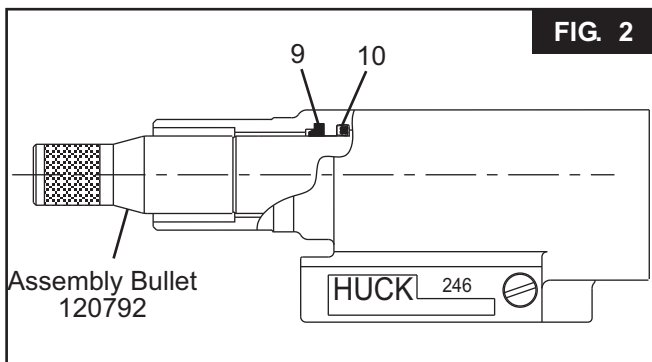

FIG. 2
NOTE: Piston will push out rear gland assembly. (Fig. 2)
Assembly (Refer to Figures 2, 3, 4, 5 and 9.)
14. Install Wiper (9) & Variseal (10) in head. (Fig. 2 & 9)
15. Thread assembly bullet onto Pull Piston (11), and push entire assembly into head. (Fig. 2)